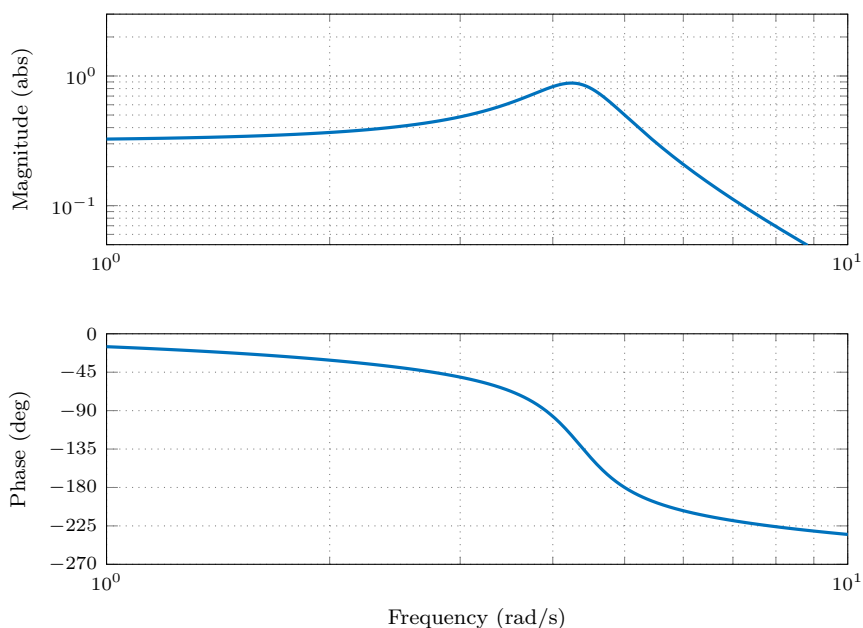

Figure 5: Bode diagram of the industrial process $G(s)$ in problem 4 (b).
- (b) A former student of Introduction to Computer Controlled Systems is working at ABB studying a small part of an industrial robot. The Bode diagram of the system $G(s)$ is shown in Figure 5.